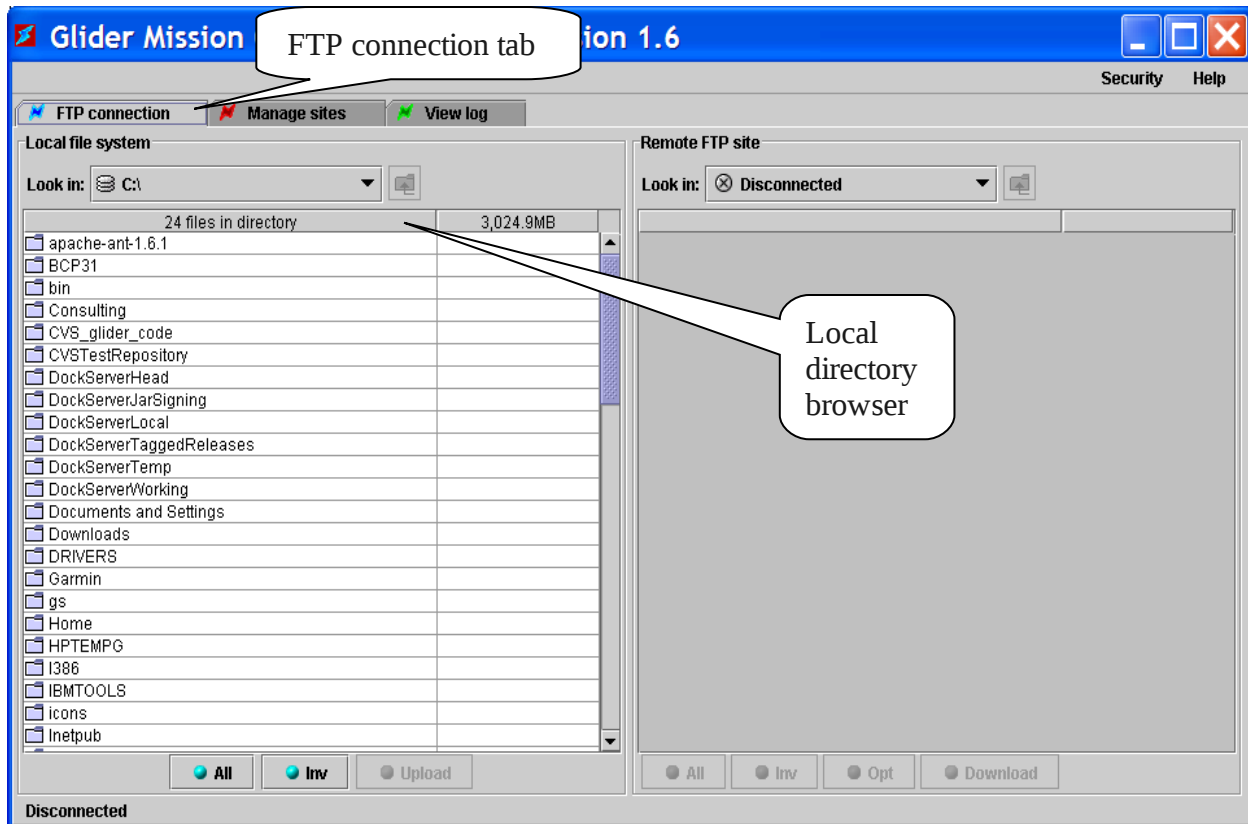

Figure 9-4. GMC FTP Main Window.
Once added to your desktop, the GMC FTP application launches and its main window appears (Figure 9-4).
1. Double click the desktop icon labeled “GMC FTP Utility” or select the item labeled “GMC FTP Utility” from the “All Programs” menu (Windows XP). The GMC FTP window should appear (Figure 9-4).